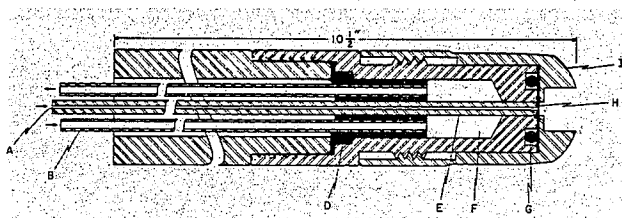

Figure 2
Figure 2 shows the LC/MS probe interface schematically. The total LC effluent enters inlet line (A) which is a 1/16" OD, 0.004" ID stainless steel tube (E). This tube is terminated by a thin stainless steel diaphragm (H). This diaphragm has a precisely centered "one-shot" laser generated pinhole of 5 micron diameter, and is held firmly against the exit end of the capillary at the probe tip. The threaded end cap (I) accomplishes this by pressing the diaphragm against Kalrez O-ring (G) and the probe tip pedestal (D). The metal to metal diaphragm seal affords zero dead volume at the probe tip while permitting total transfer of the LC effluent through the pinhole into the CI ion Source. Water enters through inlet tube (B) to cooling chamber (F). The rounded end cap butts against the ion source inlet or desolvation chamber for the necessary "tightness" for CI.